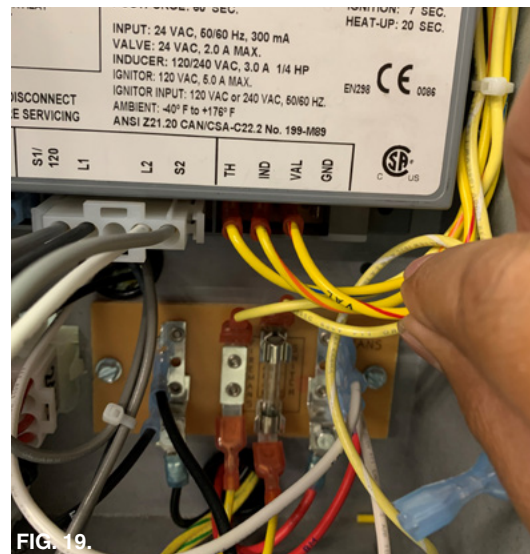

FIG. 19.
15. Connect the Red/yellow wire to VAL ¼" tab at the ICM, (Fig. 19)